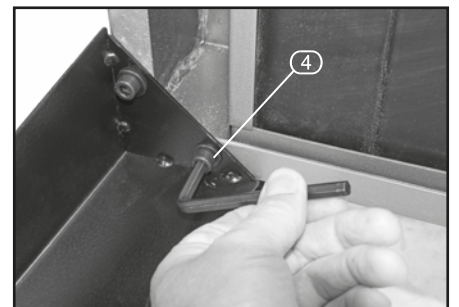

FIG.1
The stand legs ① can be secured to the bandsaw with fixings ⑤ as shown in FIG.1.